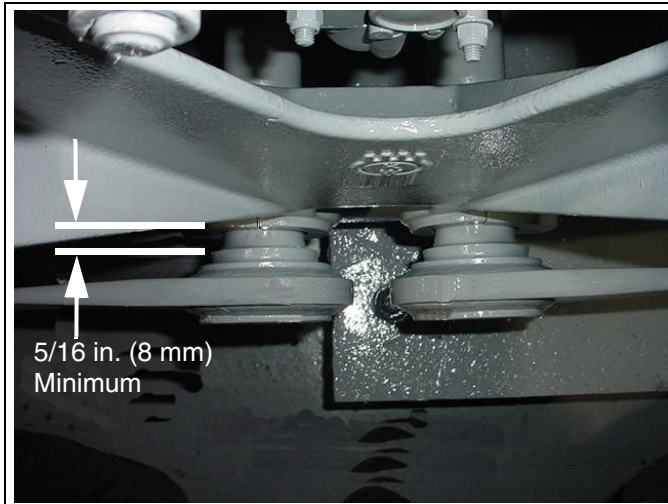

Figure 15-24
12. Ensure the clearance between the swaybar end to the frame bracket on both sides is at least 5/16 in. (8mm). If it is less than 5/16 in., the swaybar must be re-positioned (centered) between the frame brackets. See Figure 15-24.